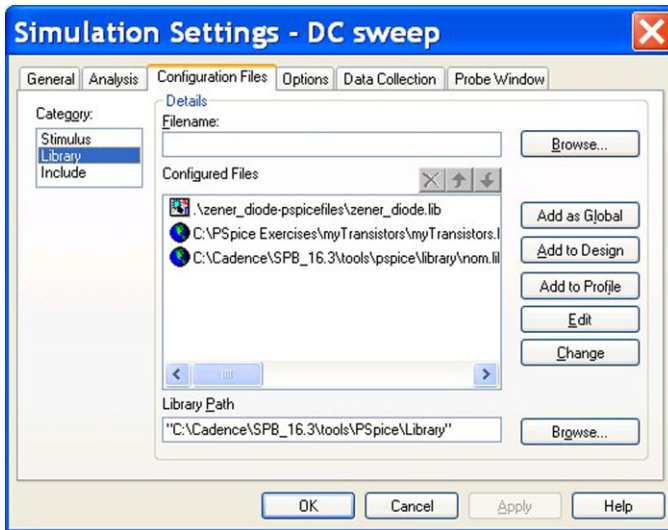

FIGURE 16.20
8. Edit the Simulation Profile. Select **Configuration Files > Library** and note that the `zener_diode.lib` has been added to the profile. The attached design icon  indicates that the file is local only to the design (Figure 16.20). The world icon, , indicates that the file is global and can be seen by all designs. The `nom.lib` contains all the PSpice library files and hence is global to all designs.